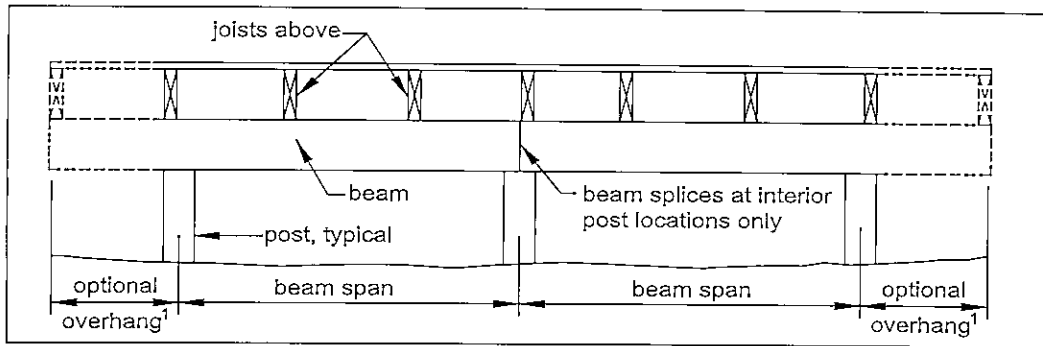

FIGURE 5: BEAM SPAN TYPES
- As shown in FIGURE 5, beam span is measured between the centerlines of two adjacent posts.
- Beams may overhang each end up to one-fourth of the beam span (0.25 x beam span) as shown in FIGURE 5.